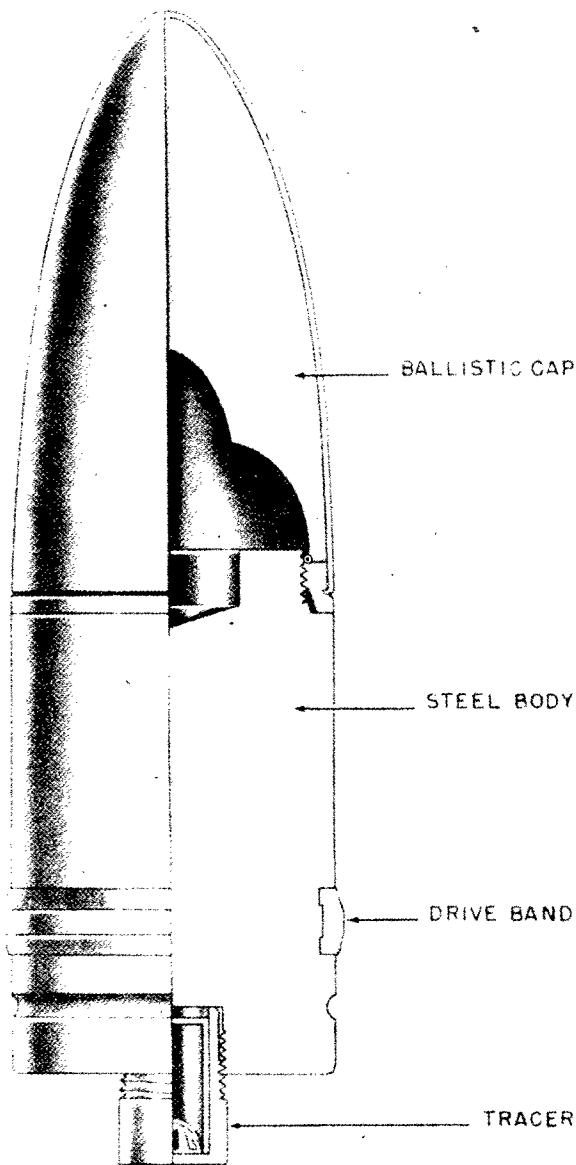

Figure 382—A. P. Projectile 75-mm, 7.5-cm Pzgr. 40 (W) Pack. 40
GERMAN NOMENCLATURE: 7.5-cm Pzgr. 40 (W) Pack. 40 (Panzergranate Patrone 40.) (See fig. 382.)